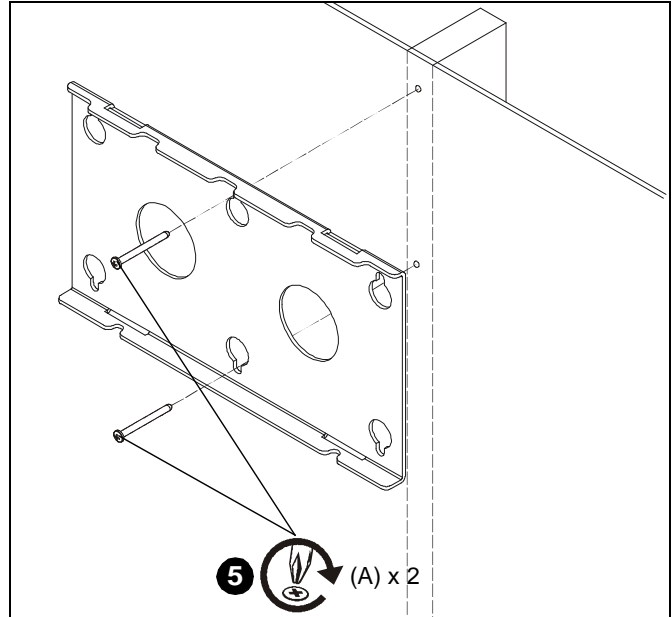

Figure 2
5. Use two #10 x 2 1/2" Phillips tapping screws (A) to secure wall bracket to wall. (See Figure 2)